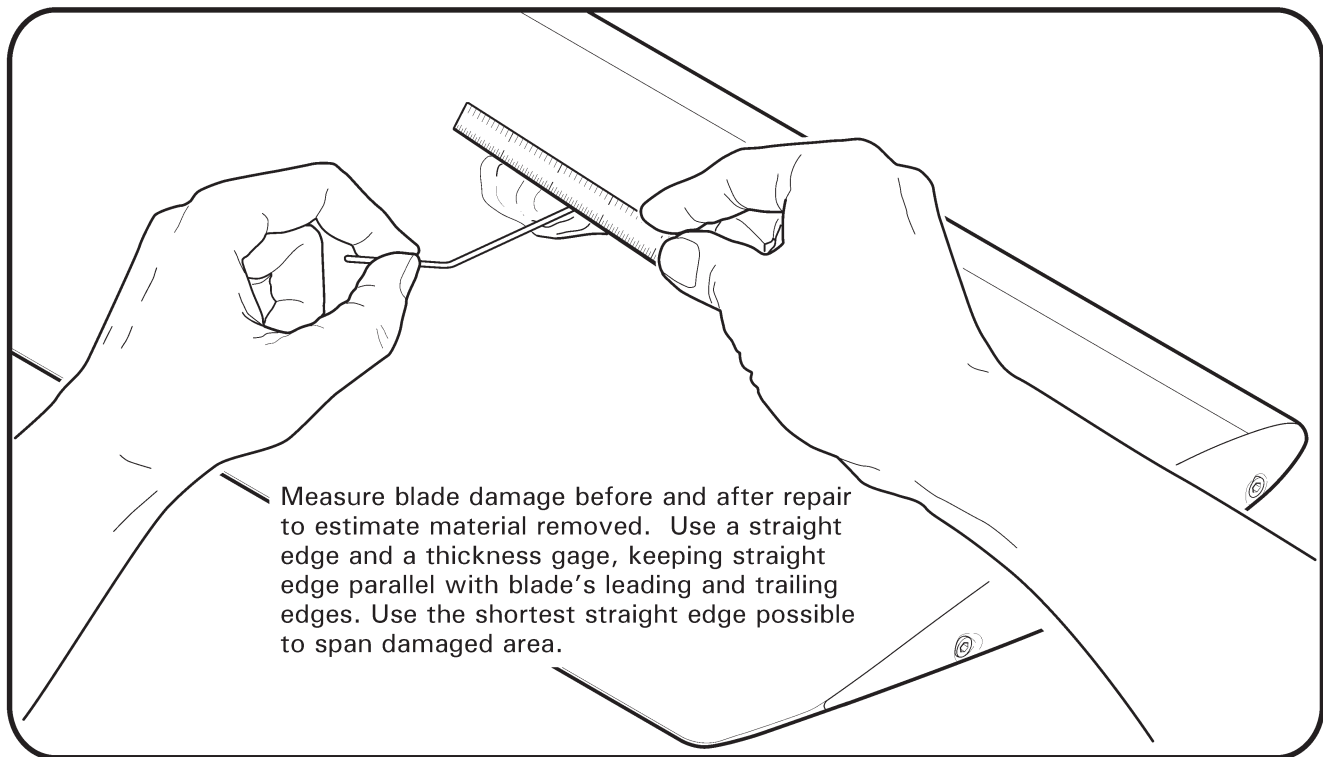

FIGURE 28-12 MEASURING MAIN ROTOR BLADE DAMAGE
1. Refer to Figure 28-12. Measure blade damage using a straight edge and a thickness gage. Keep straight edge parallel with the leading and trailing edges.